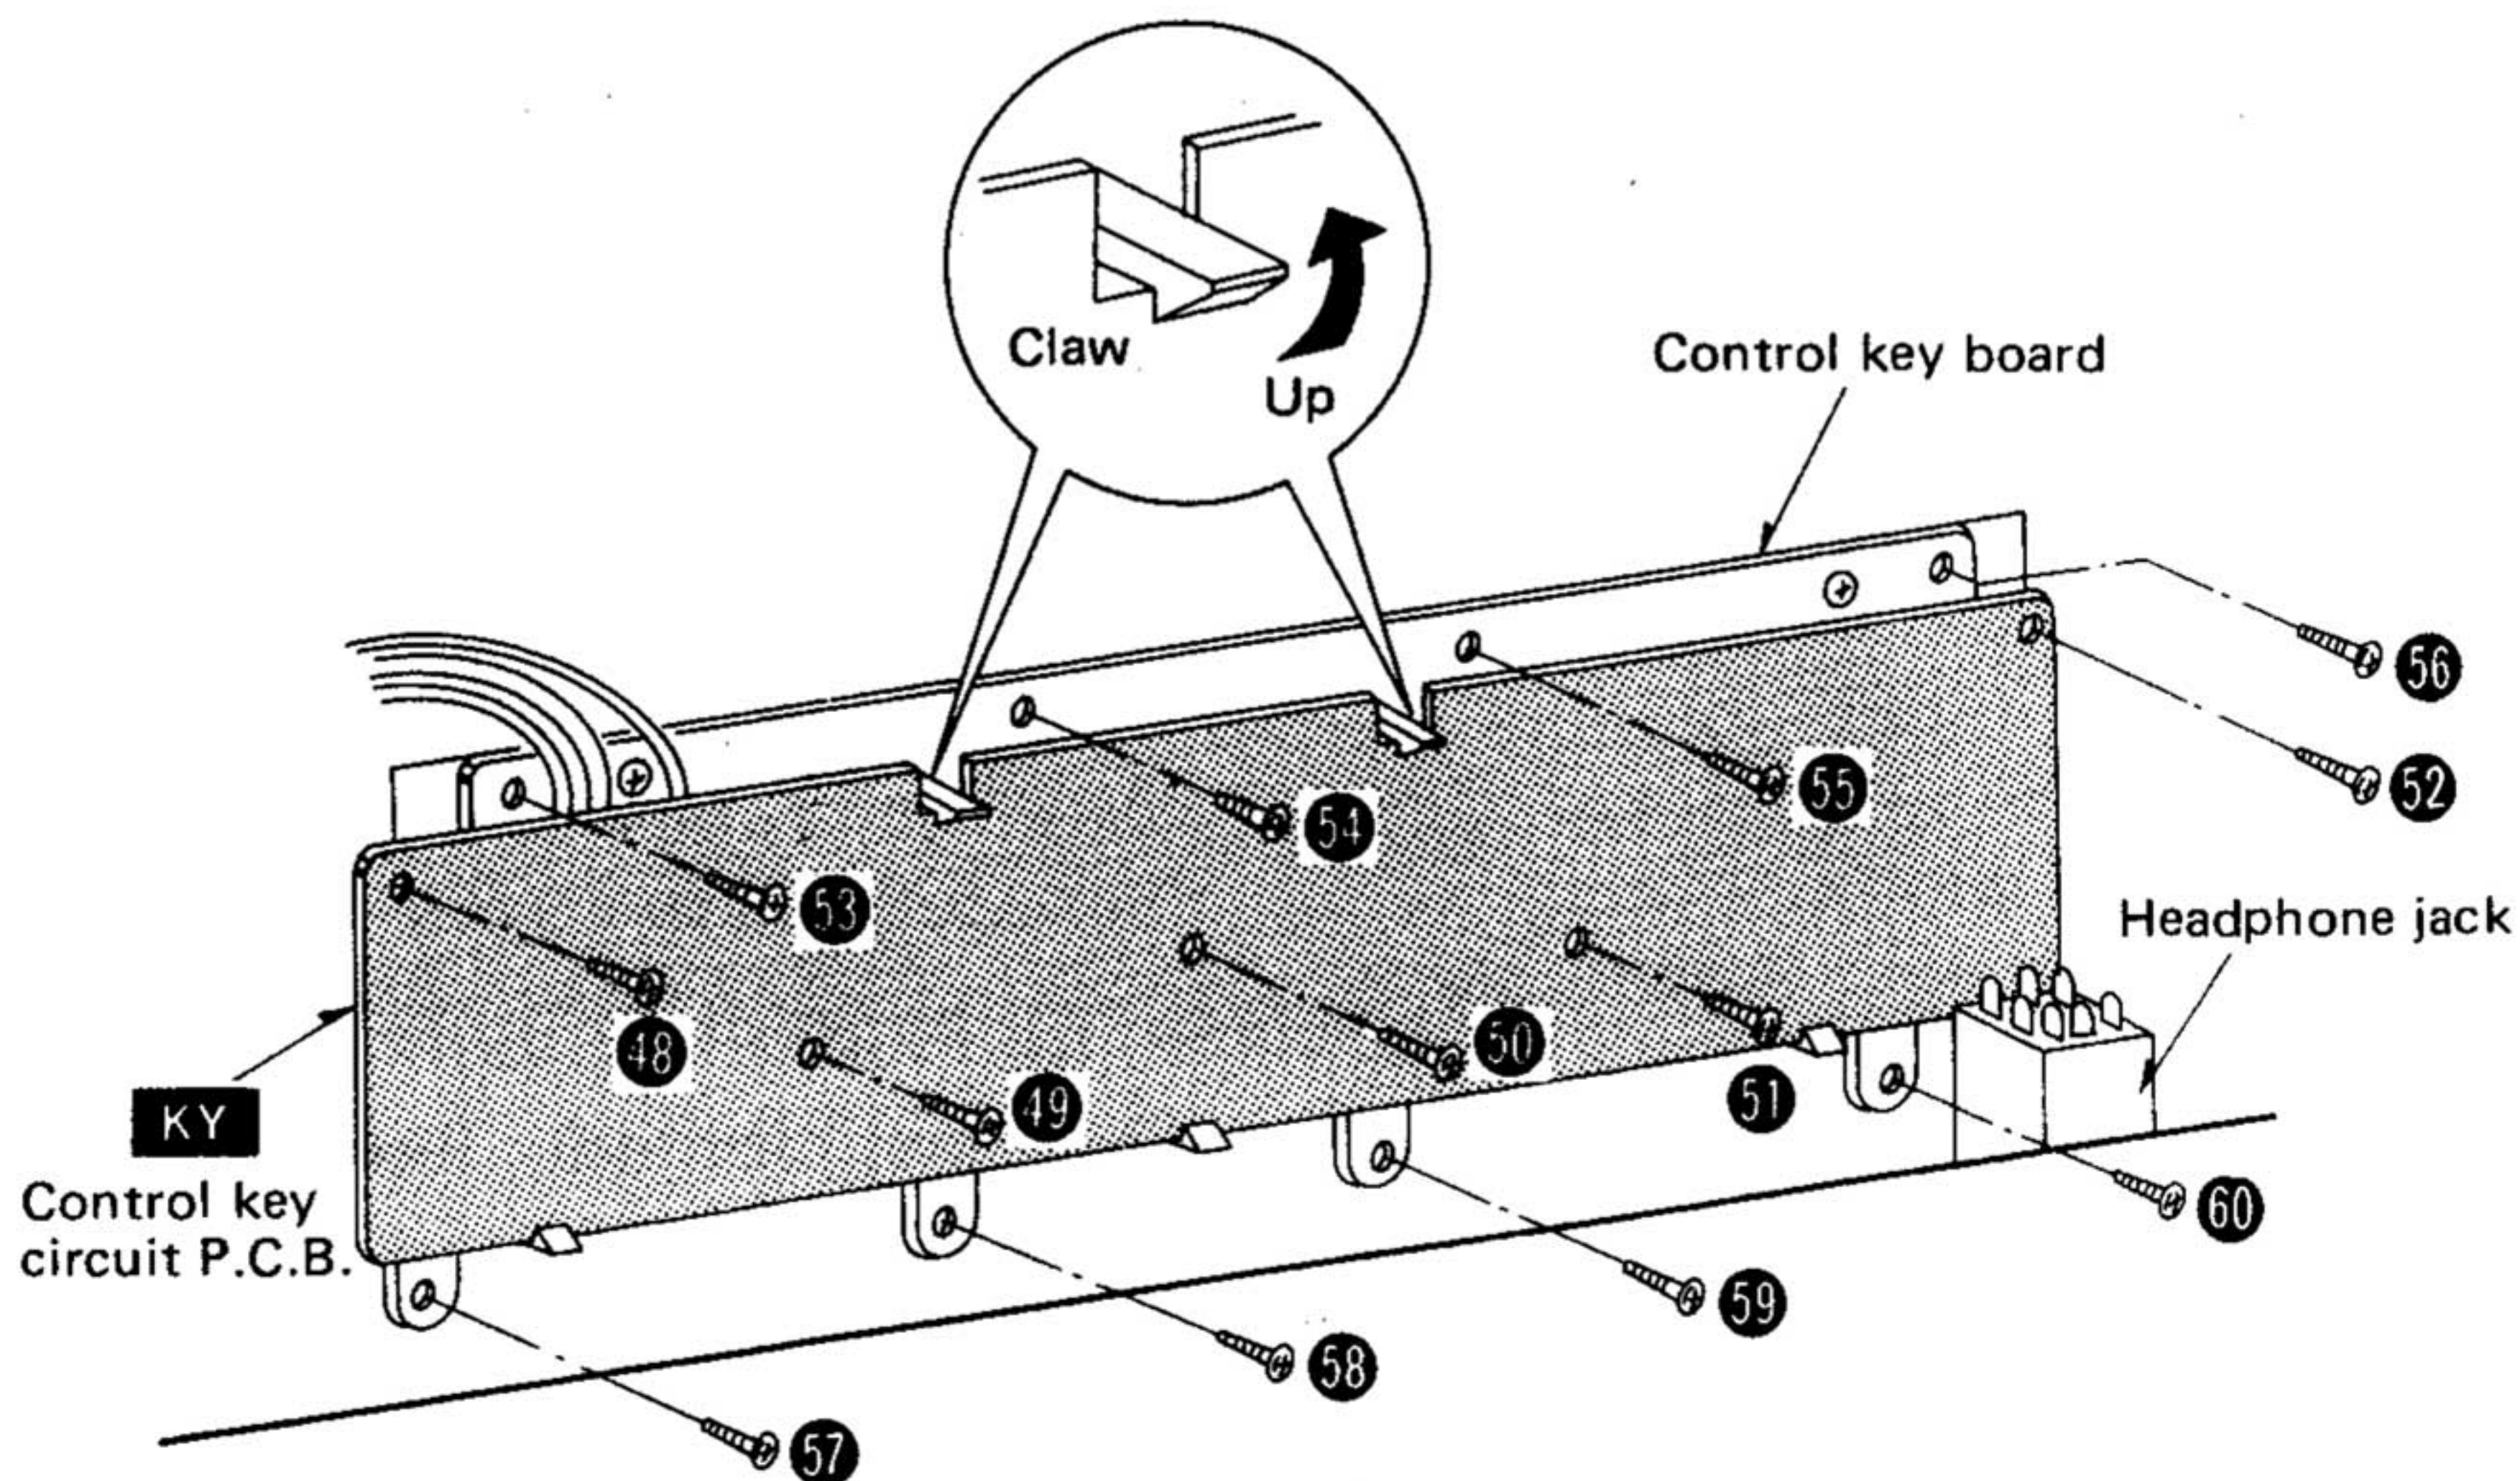

Fig. 9
2. Remove the 5 setscrews (Fig. 9 : 48 ~ 52 ) of the printed circuit board and release the claws of the knob guide upward, and remove the printed circuit board. (See Fig. 9).
3. When removing the control key buttons, remove the 8 setscrews (Fig. 9 : 53 ~ 60 ) of the control key board.